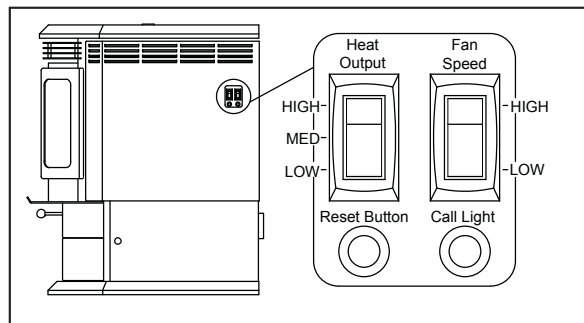

Figure 23.1
3. Occasionally the appliance may run out of fuel and shut itself down. When this happens, the red call light will be on. To restart it, fill the hopper and press the reset button. **(See Figure 23.1, page 23)**. When you press the reset button the red call light will go out. Release the button and the light will come back on. You should see a fire shortly. If not, follow the instructions on **page 24**, of "Starting Your First Fire".